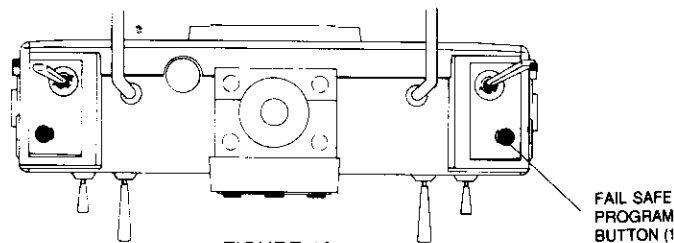

FIGURE 12
If you are going to operate your system in the "Hold" mode nothing further is required other than turning the transmitter and receiver switches to the "ON" position. To operate in the pre-determined servo position mode you must first turn both the transmitter and receiver switches "ON", and check the operation of the servos. Next, position the control sticks so that the models control surfaces and throttle are at the desired positions, i.e., maximum low throttle, slightly up elevator, etc., then, press the Fail Safe Program Push Button (19) located on the top right of the transmitter, (Figure 12). The control inputs you have set-in will be memorized and retained until such time as you disconnect the receiver battery or it is discharged. The receiver microprocessor will retain the memorized data inputs since it is furnished "KEEP ALIVE" voltage by a special switch harness. You can check the fail safe operation by turning your transmitter "OFF" and "ON", or by turning another transmitter "ON" that is on the same channel. The servos should move to the programmed positions when an interfering signal is present, or when your transmitter is off. CAUTION: If you remove the receiver battery, or if it is discharged, you must reset the desired control memory data at the transmitter, otherwise, if you don't, you will be in the "HOLD" fail safe mode of operation.